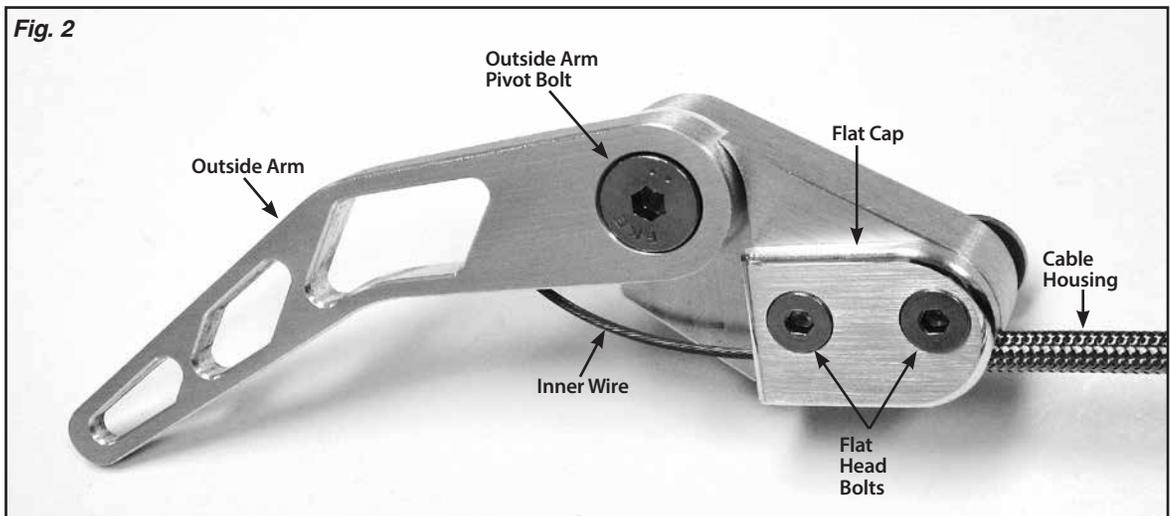

Fig. 2
**Step 2: ALL:** Pull the outside arm back as far as it will go. Pull the inner wire out of the cable housing, and then pull it out of the outside arm. **Fig. 2**
If you need to mount the release handle assembly more than 24" from the hole in the firewall, a custom length inner wire and cable housing will be required. If the release handle assembly is to be mounted close to the firewall and the cable housing is too long, it may be cut to fit. Loosen the two flat head bolts that attach the flat cap to the release handle assembly and pull out the cable housing (**Fig. 2**).
**Step 8: ALL:** Mount the release handle assembly at the spot you decided on earlier, using the two 1/4"-20 x 5/8" hex head bolts with flat washers (supplied), **Fig. 6**. If the release handle assembly is not at the correct angle, do not twist the cable housing! Loosen the two flat head bolts that attach the flat cap to the release handle assembly (**Fig. 2**), twist the release handle assembly to the correct orientation, and tighten the flat head bolts.